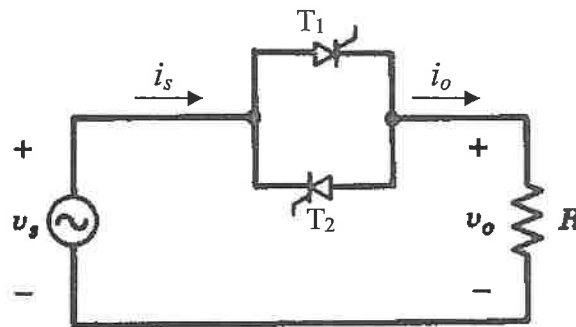

Figure 5.1: ac voltage controller.
- b) A single-phase, integral half-cycle controlled, ac voltage controller is shown in Figure 5.1. The input voltage $v_s = \sqrt{2}V_s \sin \omega t$ and it has a resistive load R ($>1 \Omega$). The input voltage is connected to the load for n half-cycles and disconnected for m half-cycles. Assume that the thyristors T_1 and T_2 are ideal.
- iii) The ac voltage controller shown in Figure 5.1 has a resistive load $R = 10 \Omega$ and the rms input voltage $V_s = 120$ V. The input voltage is connected to the load for 4 half-cycles and is disconnected for 2 half-cycles. Determine the input power factor of the ac voltage controller.